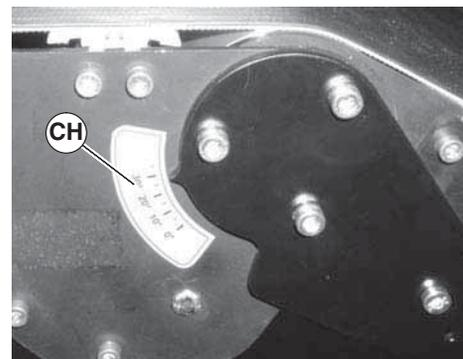

Figure 55
- Move conveyor to desired angle as indicated by angle label (Figure 55, item CH).